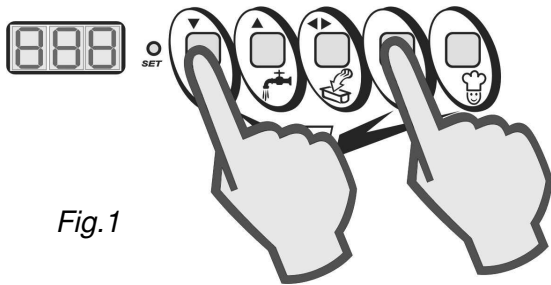

Fig.1
- With the machine at STOP, press the STOP and AUTOMATICO (AUTOMATIC) keys at the same time to access the slush production program with time control and cyclical mixing (Fig. 1).